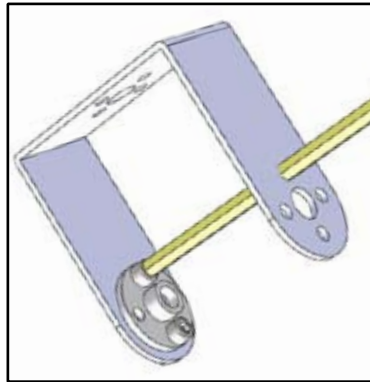

Figure D7
1) Attach a servo horn – on the inside – to one side of a pivot bracket with four screws and kep nuts (Figure D7). Repeat this with a second servo horn and pivot bracket.